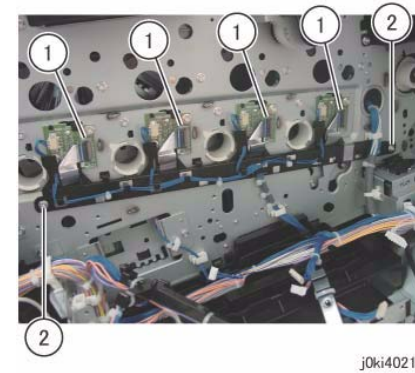

Figure 8 Remove the screws
14. Remove the screws that secure the LPH Cable Assembly. (Figure 8)